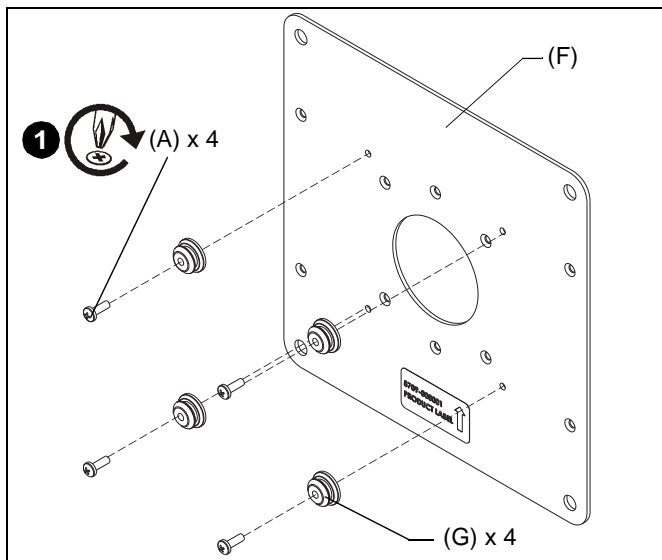

Figure 1
1. Assemble four mounting buttons (G) to VESA bracket (F) using four M4 x 12mm Phillips pan head screws (A). (See Figure 1)